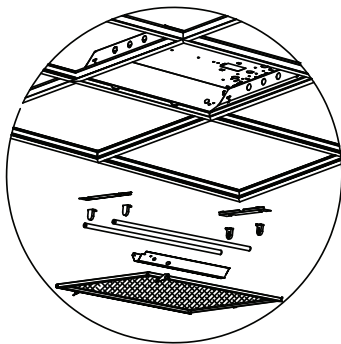

Fig. 1
1. Prior to installation, disconnect all incoming power to fixture. Remove existing hardware (lens/lens frame, parabolic louver, reflectors/ballast covers, brackets, lamps/lamp holders). Leave supply and grounding leads. (Fig.1)